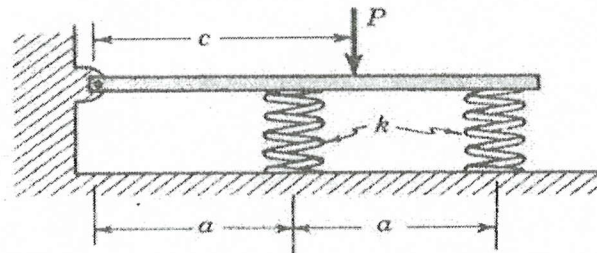

Figure 3/Gambarajah 3
2. (b) A stiff beam is hinged at one end and supported by two springs of spring constant k . Where should a force P be applied so that the spring constant of the system (P divided by the deflection under P) is $20/gk$? (See Figure 3).